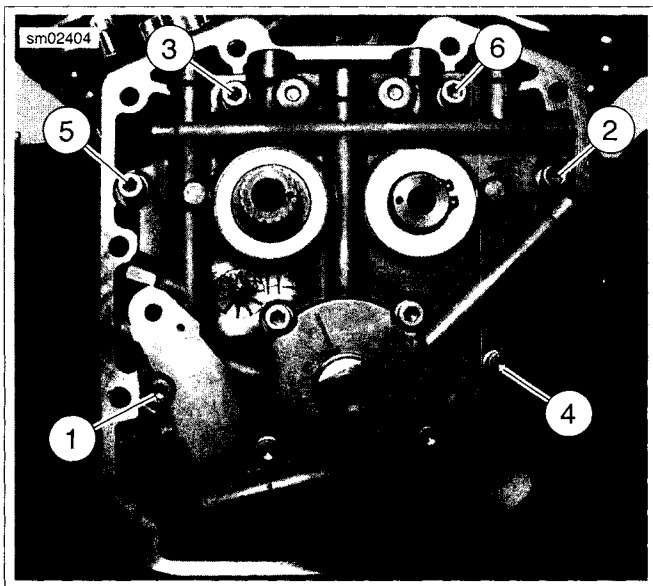

Figure 3-78. Cam Support Plate Torque Sequence
- See Figure 3-78. Install cam support plate screws.